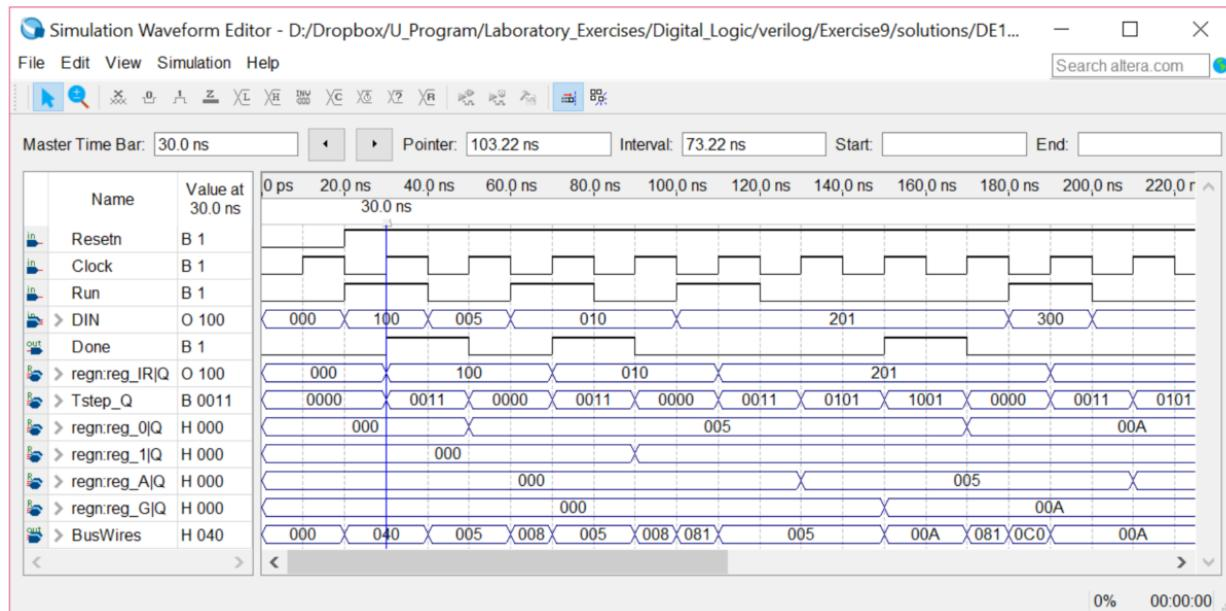

Figure 2: Simulation result for the processor.
- Use functional simulation to verify that your code is correct. An example of the output produced by a functional simulation for a correctly-designed circuit is given in Figure 2. It shows the value $(010)_8$ being loaded into *IR* from *DIN* at time 30 ns. This pattern represents